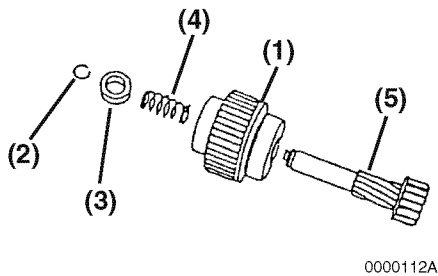

Figure 10-11
12. Disassemble the pinion stop (**Figure 10-11, (3)**), return spring (**Figure 10-11, (4)**), pinion clutch assembly (**Figure 10-11, (1)**), and pinion shaft (**Figure 10-11, (5)**).